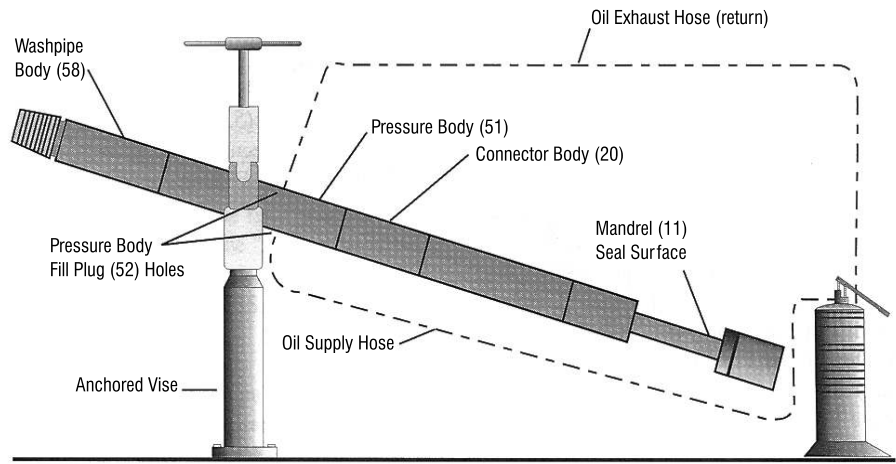

Figure 9
1. Position the jar with one of the Pressure Body Fill Plug (52) holes at the top of the jar's OD. This will allow maximum air removal during filling. See Figure 9 at right.
2. Tilt the jar at least 10° from horizontal with the Mandrel (11) end lower than the Washpipe Body (58) end. See Figure 9 at right.
3. Attach the Volume Pump Oil Supply Hose to the Pressure Body Fill Plug (52) hole on the underside of the jar using the assembled Adapter and Male Coupler. Both Fill Plug holes are located near the center of Pressure Body (51) at 180° from one another. See Figure 9 at right. Attach the Volume Pump Oil Exhaust Hose to the top Fill Plug hole using the assembled adapter and Male Coupler. Required hardware is included in Service Kit (63), shown on page 23.